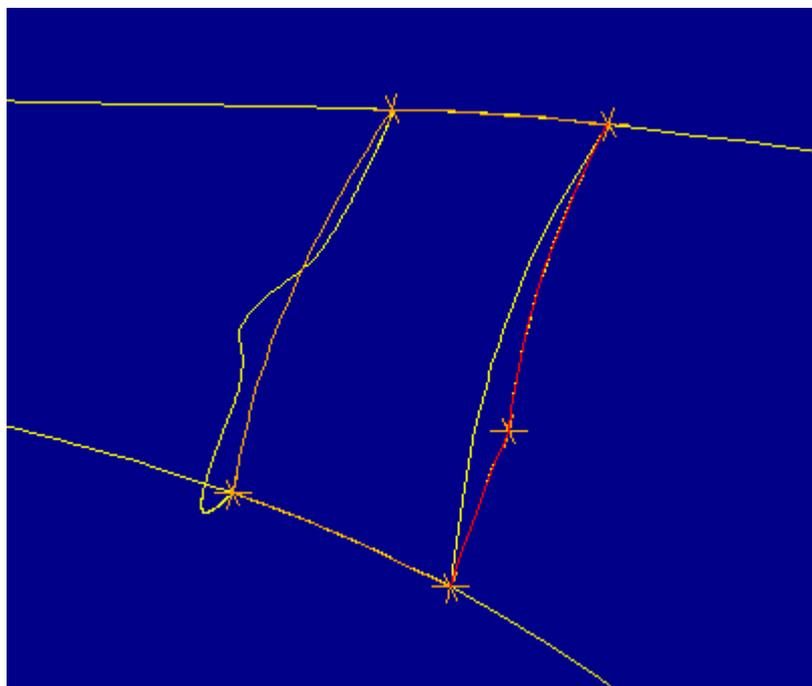
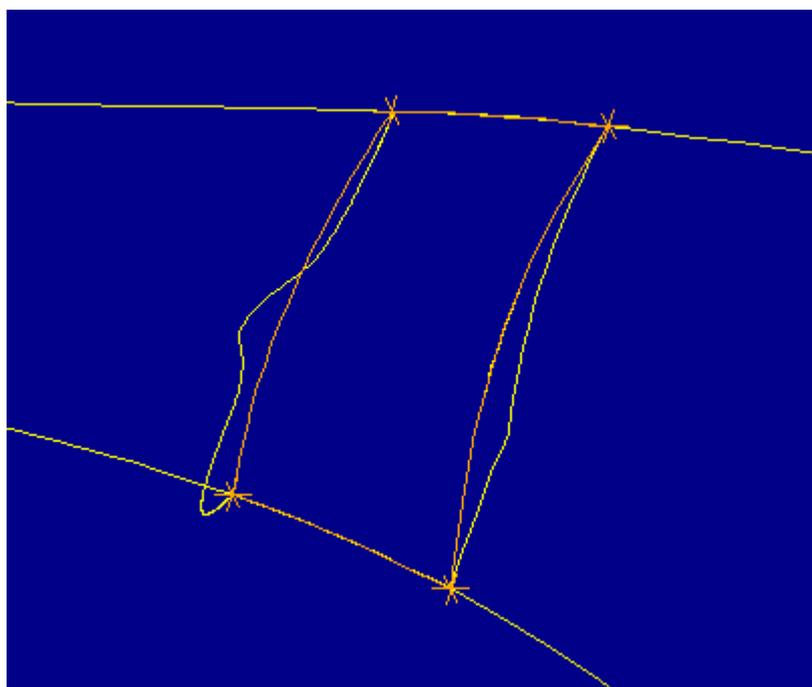

Figure 36
Figure 37
24. In the MODIFY EDGS menu select **Straighten**. Select the two orange vertices at either end of the right edge and in the CHOOSE menu **Accept** the chain highlighte in red in Figure 36. Figure 37 shows the resulting edge.